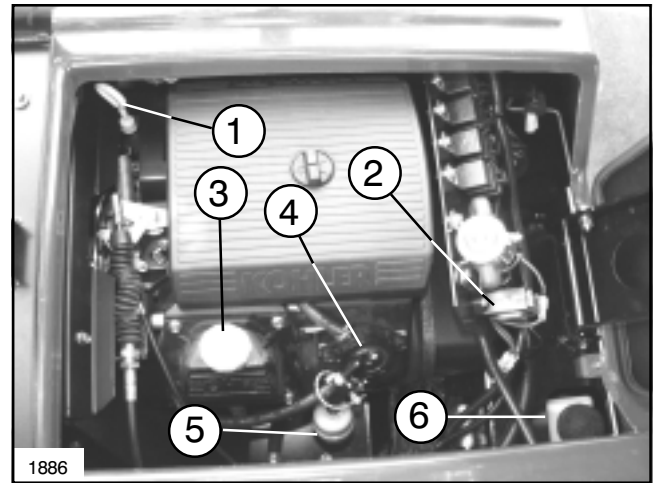

FIG. 7
1. Park machine on a level surface. Set Parking Brake. Tilt seat forward to gain access to the master cylinder and the brake fluid reservoir. (See FIG. 7)